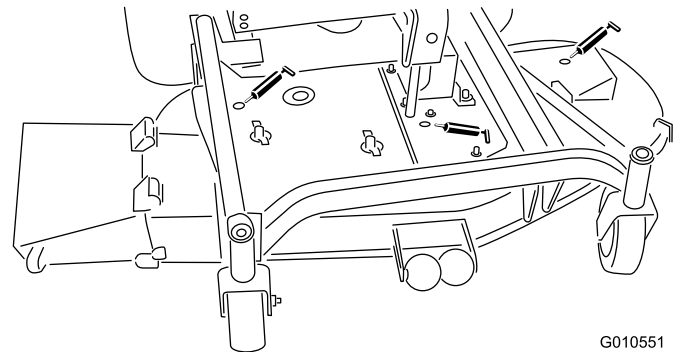

Figure 30
- Blade-spindle bearings (Figure 30)